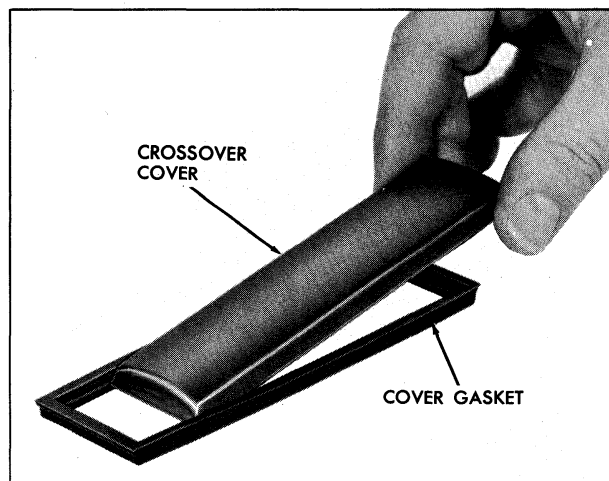

Fig. 5-29 Assembly of Crossover Cover and Seal
8. Assemble a new rectangular gasket to suction crossover cover so wide portion side of seal is at bottom (against cylinder halves) and retained by cover (Fig. 5-29).